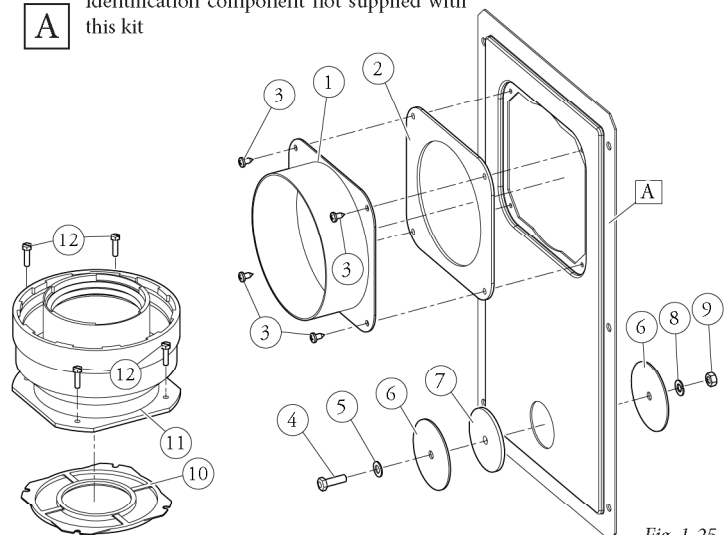
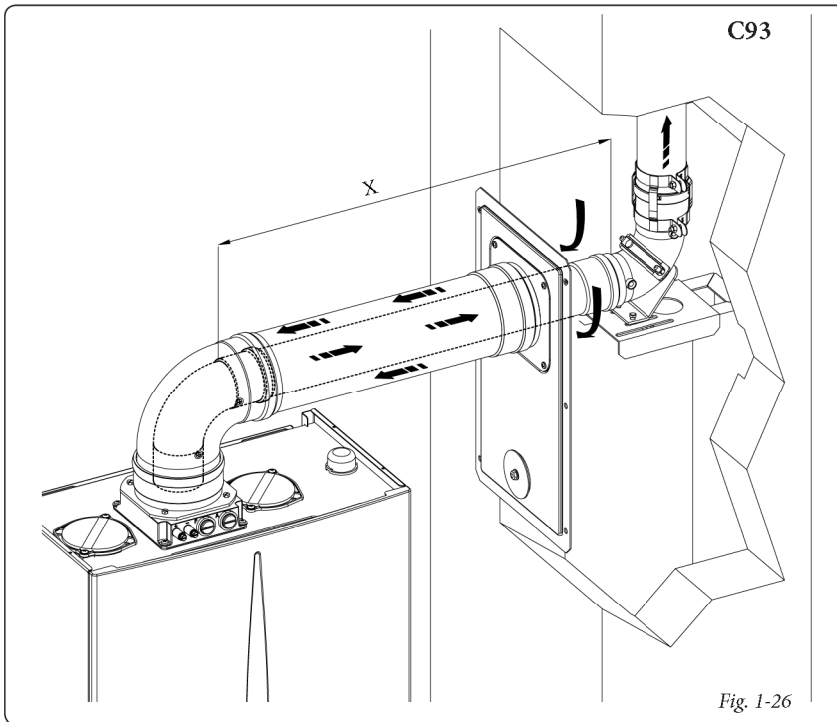

Fig. 1-25
Fig. 1-26
- Assemble the components of kit "C9" on door (A) of the ducting system (Fig. 1-25).
- (Only version Ø125) install the adapter flange (11) positioning the concentric gasket (10) on the boiler and tighten using the screws in the kit (12).
- Prepare the boiler flue by calculating that the internal pipe of the concentric kit must engage until the end stop in the ducting system bend (quota "X" fig. 1-26).
- Assemble the lid (A) complete with adapter (1) and wall plugs (6) and assemble the flue to the ducting system.
Once all the components are assembled correctly the flue exhausts will be expelled by the ducting systems, for the normal operation of the boiler the combustion air will take in the air directly from the air shaft (Fig. 1-26).
For the determination of the flue system C93 in different configurations than those previously described (Fig. 1-26) it is necessary to consider that 1 metre of ducted pipe according to the
For the determination of the flue system C93 in different configurations than those previously described (Fig. 1-26) it is necessary to consider the following head loss: